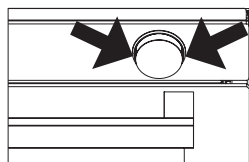
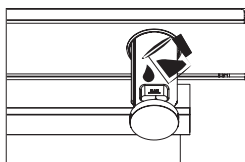
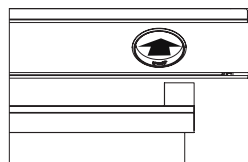

Figure 4
Figure 5
Figure 7
1. Remove the water container by pulling it out at the points indicated by the arrow. Fill the water container (See figure 4) and slide it in the direction of the arrow to the starting position to put it in place (See figure 5,6). After 10 minutes of preheating, slide the water container in the direction of the arrow until you hear a "click" (See figure 7).